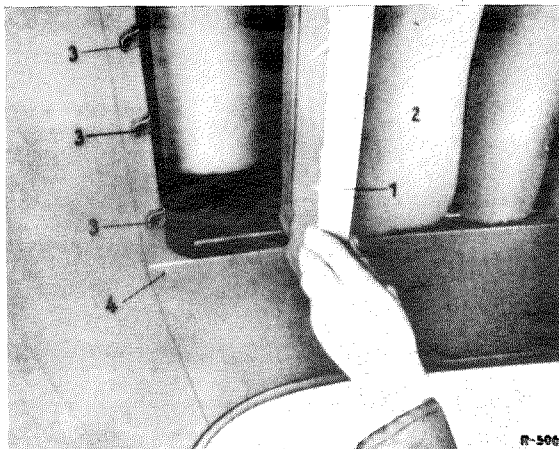

Fig. 69 — 2/1
6. After removing the two visible screws in the rear corners of the roof opening, open the sliding roof and push out the sliding roof headlining together with the metal rail (1) from the clamps (3) toward the rear (Fig 69 — 2/1).